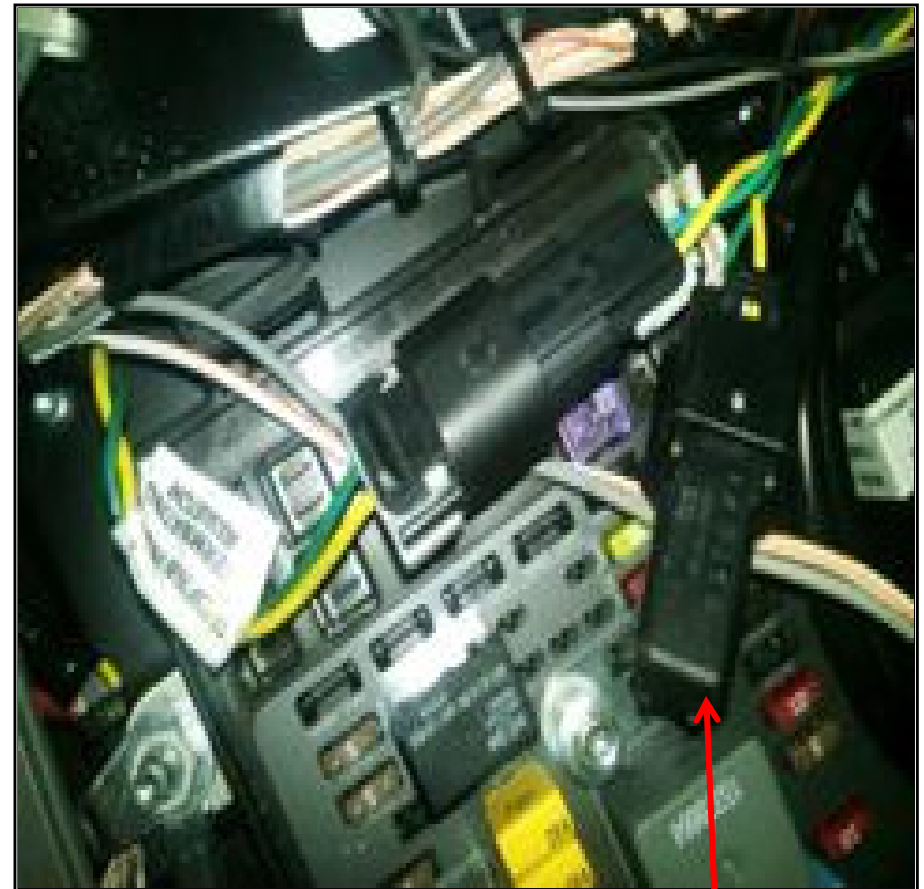

Figure 2
2. Each threaded lug in the fuse relay panel is clearly marked i.e. power, ground, ignition and J1587. Connect each wire to its corresponding threaded lug. Refer to “Figure 2 and Figure 4”
4. To install the “**DTY20685, J1939 “Y” cable**” at terminating resistor; identify wires (1) green, (1) yellow and tagged J1939.